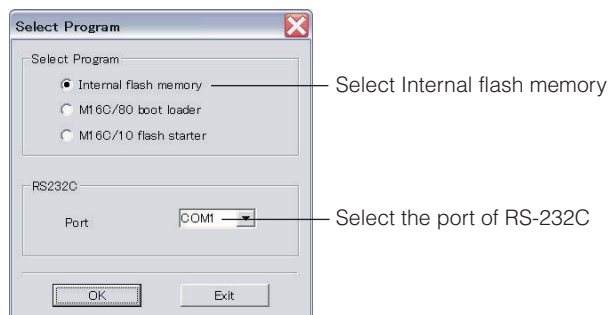

Fig. 2
3. Start up FlashSta.exe, the screen will appear as shown below. (Fig. 2)
4. Select the port and data to be transmitted. (Fig. 2)